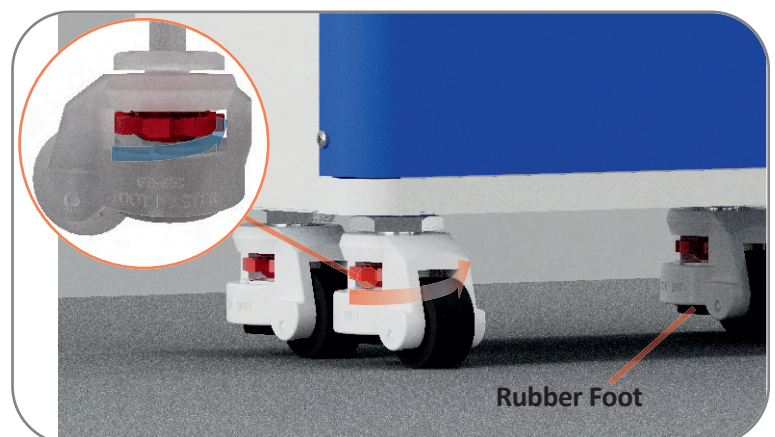

Figure 7.19
**STEP 18:** To secure the LBP to the floor, turn the red wheel shown in Figure 7.19 in the direction of the arrow until the rubber foot makes contact with the ground.